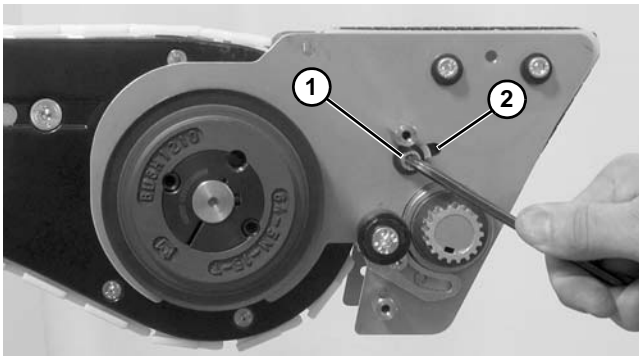

Figure 146
4. Loosen idler socket head screw (Figure 146, item 1) on both sides of the conveyor.
5. Slide idler assembly within slot (Figure 146, item 2) to remove tension on belt.